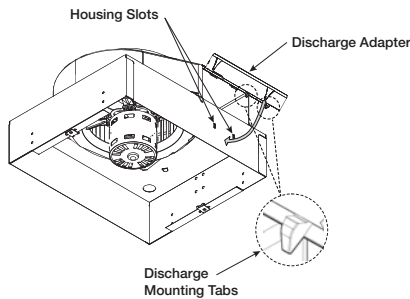

Figure 3 — Rotate and Engage Discharge Installation
2. Rotate discharge adapter until the two mounting tabs fully engage into the housing slots, shown in Figure 3.